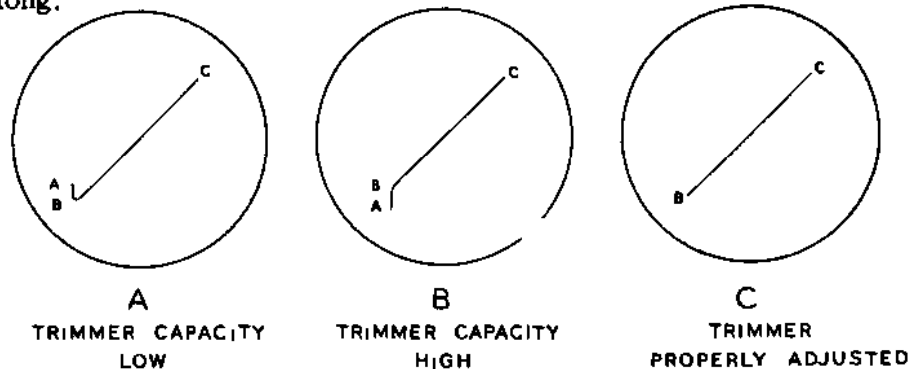

Figure 31
- ( ) Disconnect the jumper from the 1 V. P-P terminal. Turn off the power and connect the free end of the jumper to the excess lead from "HOR. IN" on the rear circuit board. Set the FREQ. SELECTOR to the line between 1000 and 10 K and the FREQ. VERNIER to 0. Now turn on the power. You should get a trace similar to that in Figure 31 A or B. Reduce both gain control settings so that the trace is about 2" long.
5. If you are unable to obtain straight diagonal lines when adjusting the vertical trimmers, please refer to Figure 31 on Page 31 of your O-11 manual. The patterns shown there present a perfectly straight line between points B and C on the traces. Some users have raised questions on this point, stating that they cannot obtain a straight line between B and C. This is perfectly normal. The indication which is significant is that portion of the trace between A and B. The intention of the adjustment is to reduce this portion of the trace to a point at the lower end of the trace, thus indicating neither overshoot or slow rise time on the sharp wave-front of the sawtooth generated by the sweep oscillator. If the remaining portion of the line hallies up or down, a readjustment of the sweep oscillator frequency will probably locate a point where the effect is changed radically. This variation is due to minor phase shift relationships in the amplifier circuits, not to defective or improper compensating.